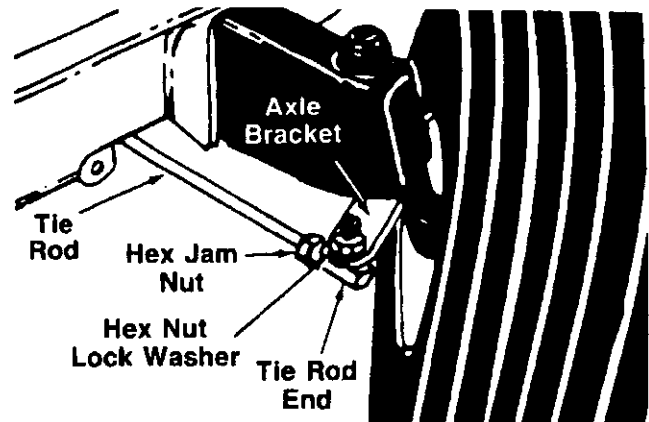

FIGURE 19.
- Remove the hex nut and lock washer, and drop the tie rod end from the axle bracket. See figure 19.